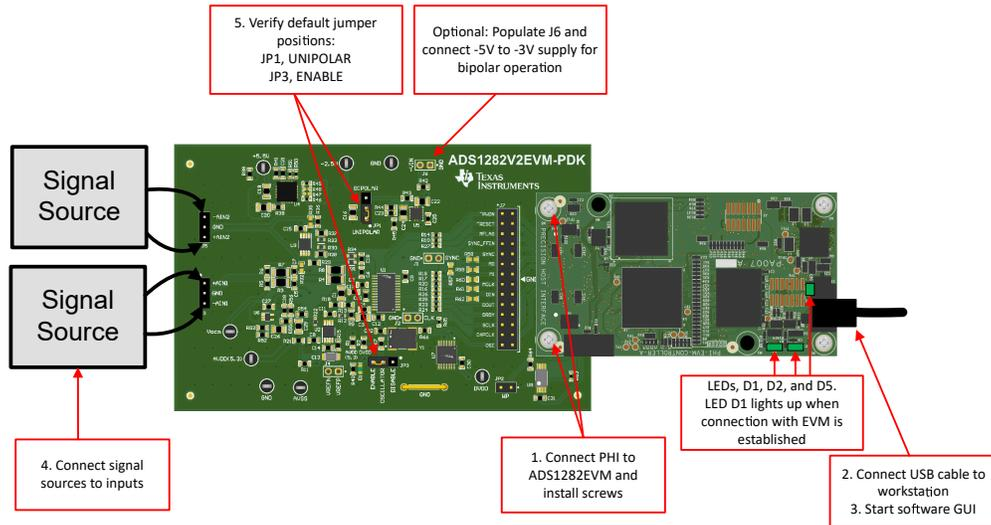

Figure 4-1. Connecting the Hardware to the ADS1282EVM
Connect the EVM as shown in Figure 4-1 after installing the software:
- b. LEDs D1 and D2 on the PHI start blinking to indicate that the PHI is booted up and communicating with the PC; Figure 4-1 shows the resulting LED indicators.